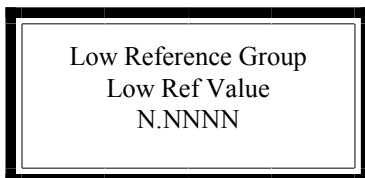

Figure 9b: The Low Referencing Value
4) Toggle the "Prev" key until you reach "Low Reference Value" Menu, Figure 9b, and set the value to the desired Low Reference Value. (See Chapter 8 pages 1-3 on modifying Menu Variables).